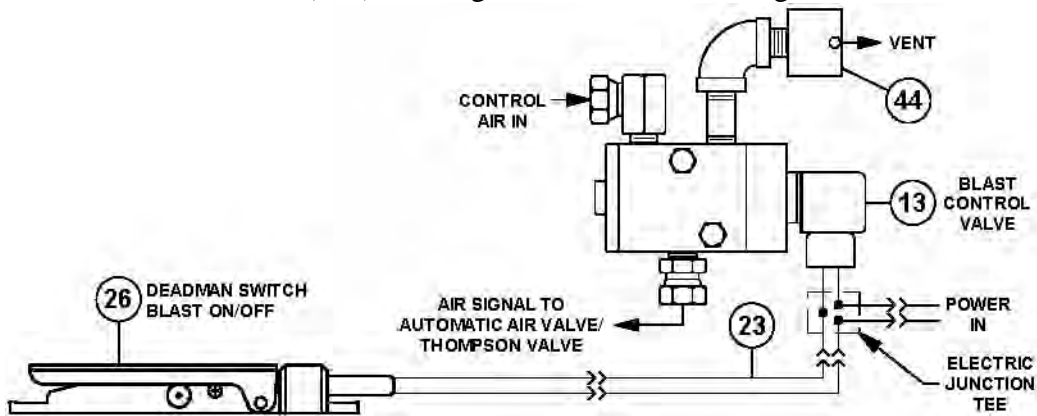

Figure 5.4 – Electric Blast Control System
5.12.2. Electric Deadman System: When the electric deadman lever is pressed down it closes the electric circuit and supplies electric current to the control valve (#13). The control valve opens and sends air signals to the auto air valve (#17) and the Thompson Valve® (#11). When the deadman lever is released the electric circuit is cut off closing the control valve. The signal air vents from the breather (#44). See Figure 5.4 and the drawings in Section 9.2.